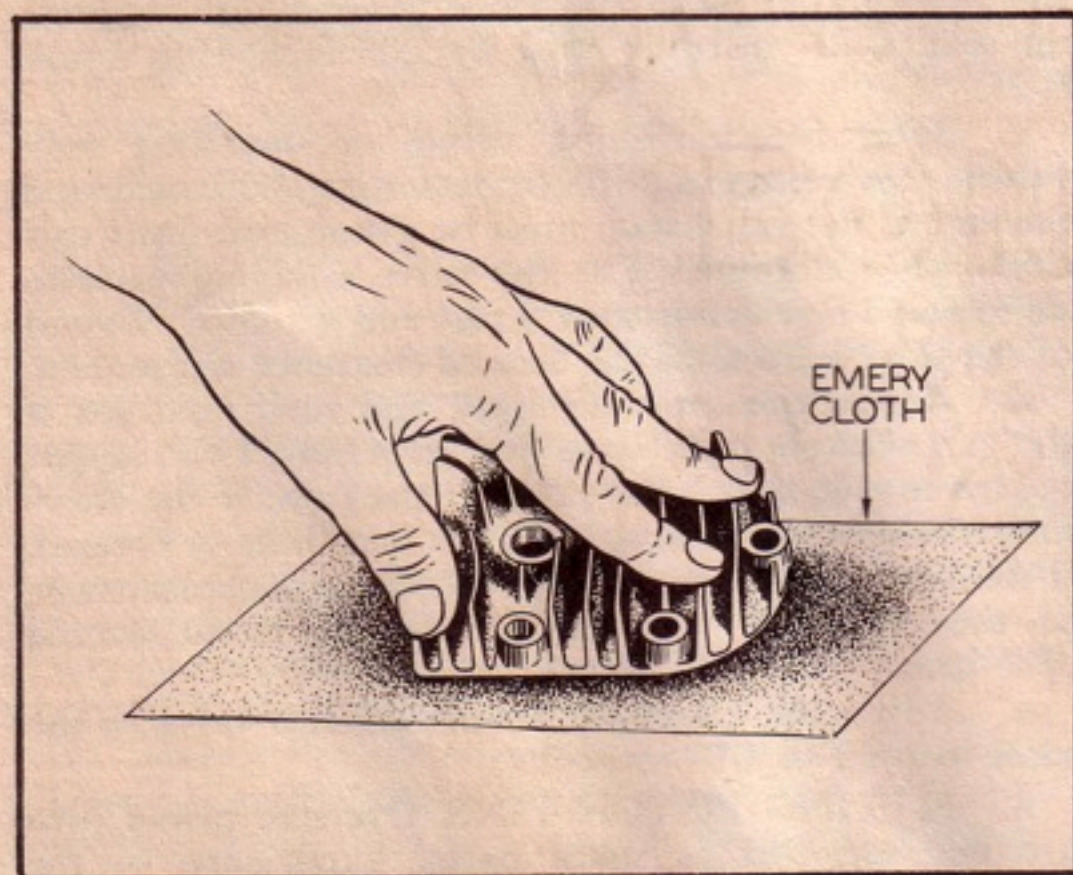

Figure C-19. Resurfacing Cylinder Head
a. Lay a piece of fine emery cloth, abrasive side up, on the face plate and move the cylinder head across the surface of the emery cloth in a "figure 8" manner. (See figure C-19).